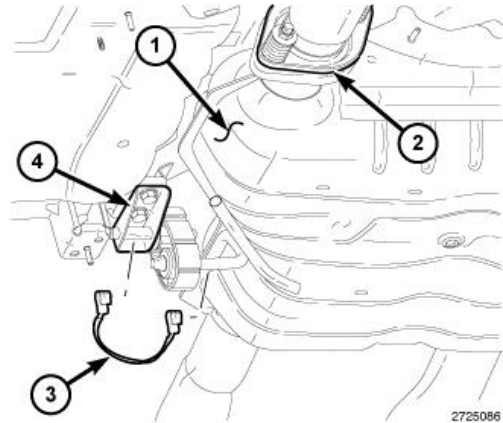

Figure 9 – Tailpipe/Resonator Flange
17. If removing with muffler, remove the tailpipe/resonator to muffler assembly flange (2) nuts (Figure 9).